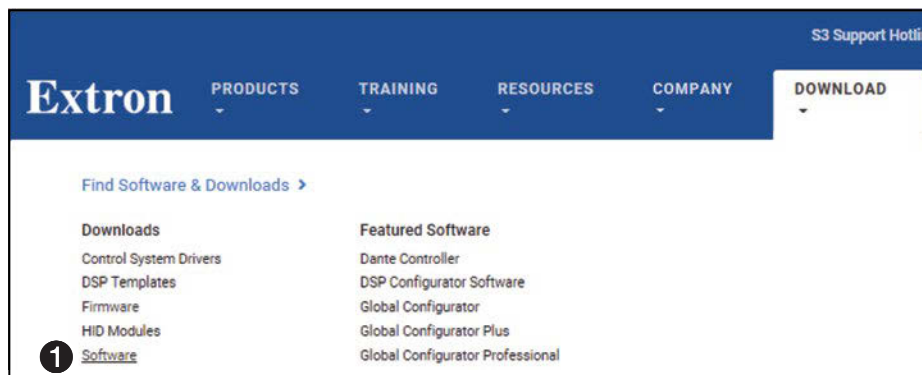

Figure 82. Location of Software on the Website
The Extron Button Label Generator is available on the Extron website, www.extron.com, under the Download Center tab. Click the **Software** link (see figure 82, ❶), and download and install the program on your PC.